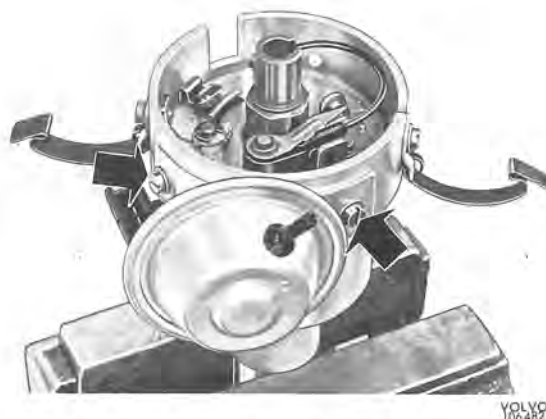

Fig. 3-63. Removing vacuum regulator
2. Remove the snap ring for the pull rod from the vacuum regulator. Remove the vacuum regulator, see Fig. 3-63.